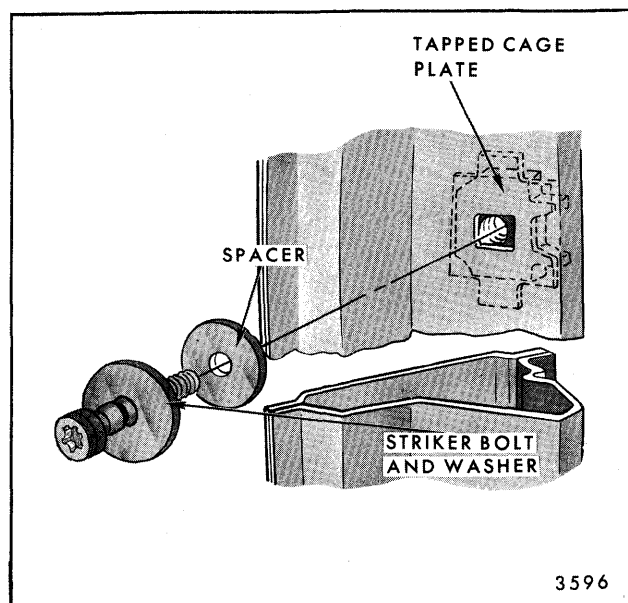

Fig. 5-20-Door Lock Striker Installation
2. Insert tool J-23457, BT-7107 or equivalent into the star shaped tool recess in the head of the striker bolt and remove striker (refer to Fig. 5-20).